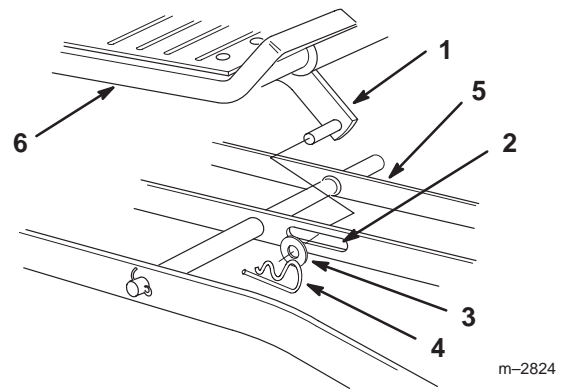

Figure 4
6. Slide the mower under the tractor from the right side and slide the attachment lift between the center and left side level bar (Fig. 4).
8. Place the attachment lift pin into the slot in the center lever bar and secure it with a washer (3/4 inch) and a hairpin cotter pin (Fig. 4).